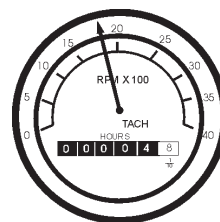

Figure 52. Engine Tachometer Gauge
17. The **tachometer gauge** (Figure 52) will indicate the speed of the engine when the generator is operating. Under normal operating conditions this speed is approximately 1500 RPM's.